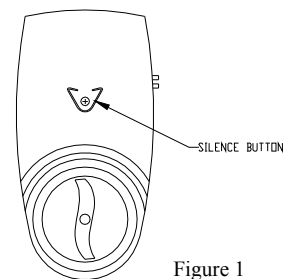

Figure 1
- Open the valve by turning the front knob ¼ turn clockwise to the green mark on the cover. Now the controller is open and ready to sense any water. Check that everything works properly by placing the tip of the sensor into a small cup of water. The valve should close and the alarm will sound. You can silence the alarm by pressing the button printed with a + sign inside a circle (see figure 1).